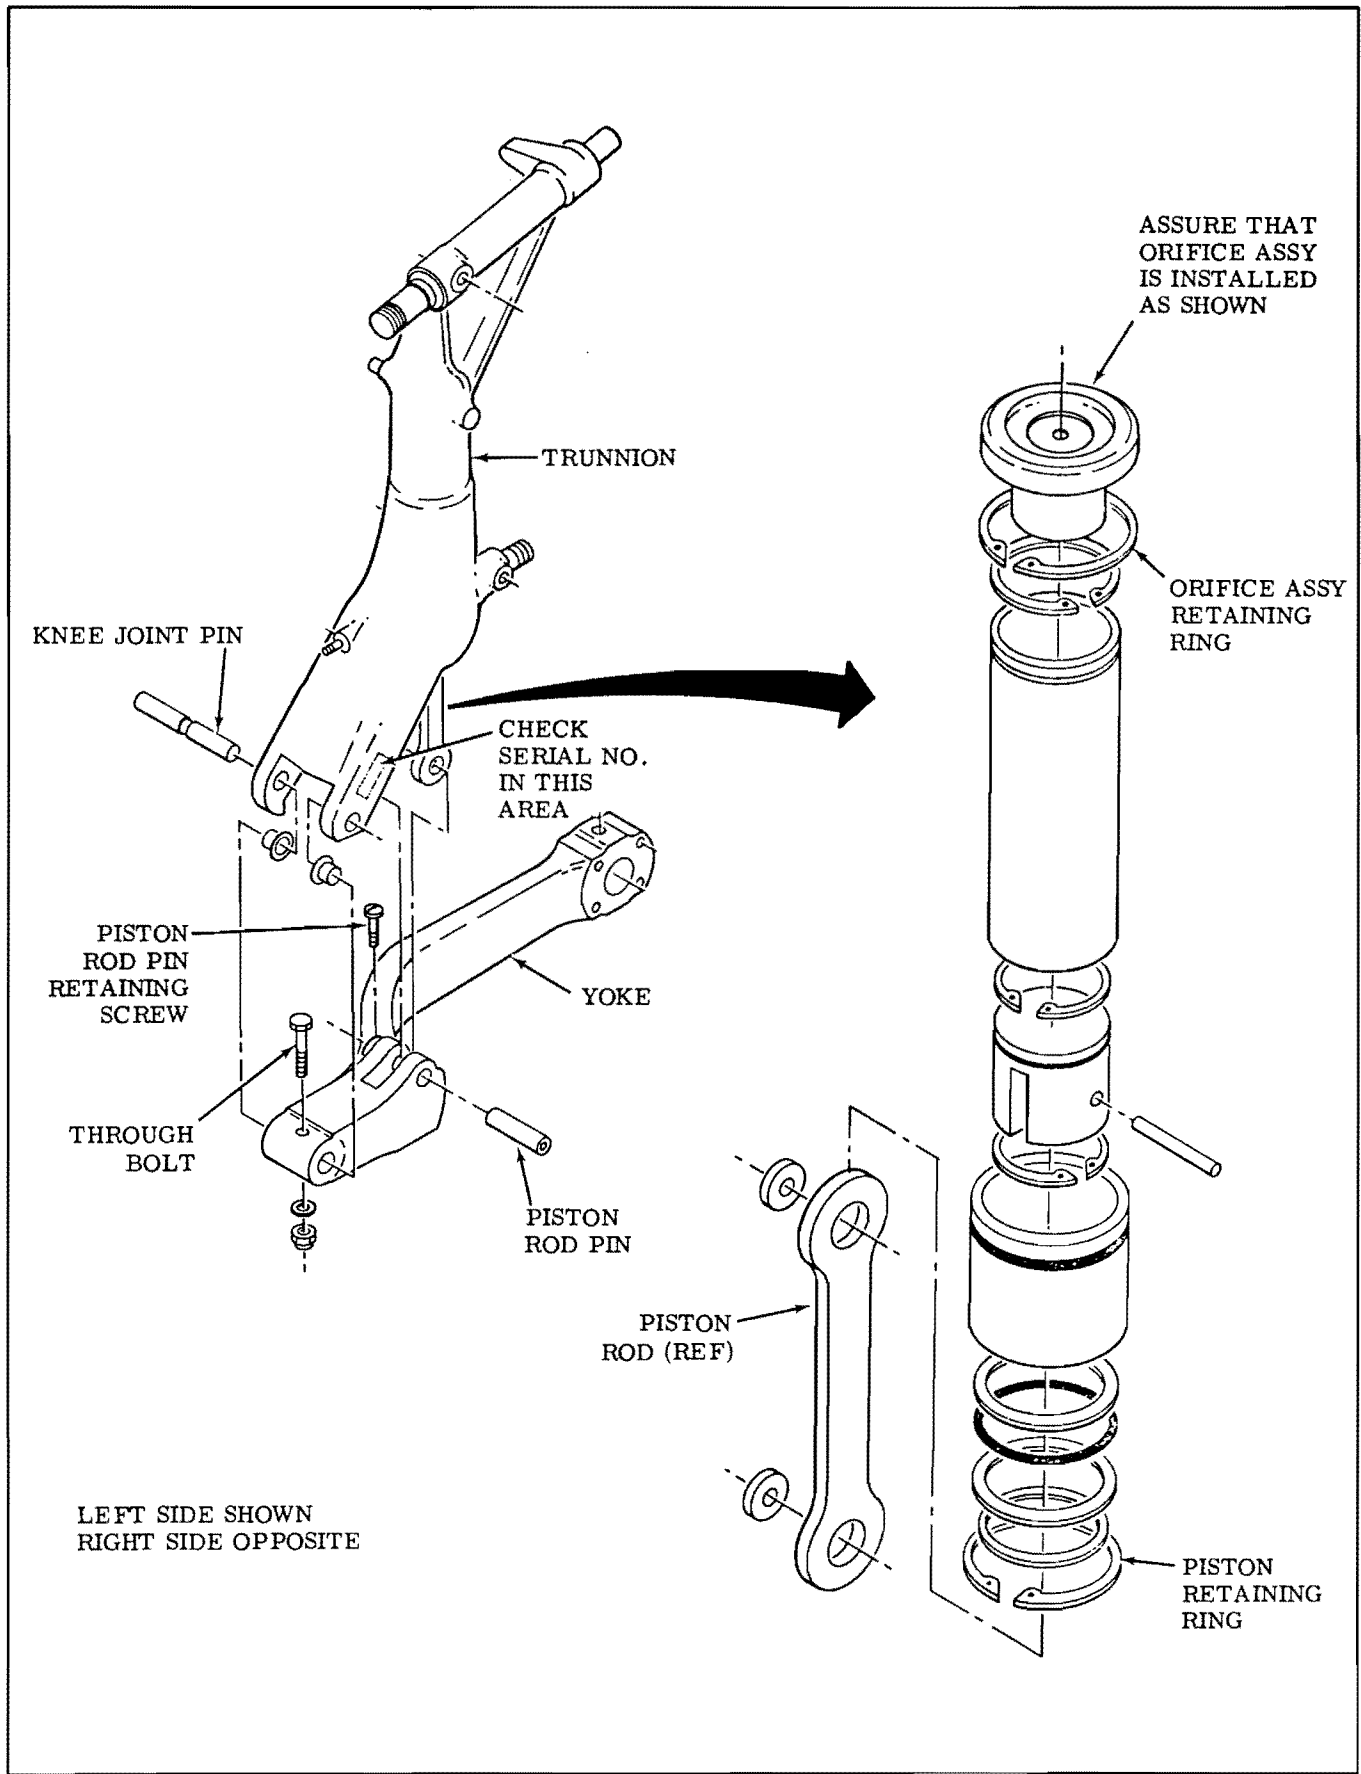

Figure 1.
14. Reinstall the existing orifice assembly correctly in the strut using existing retaining ring (see Figure 1.).